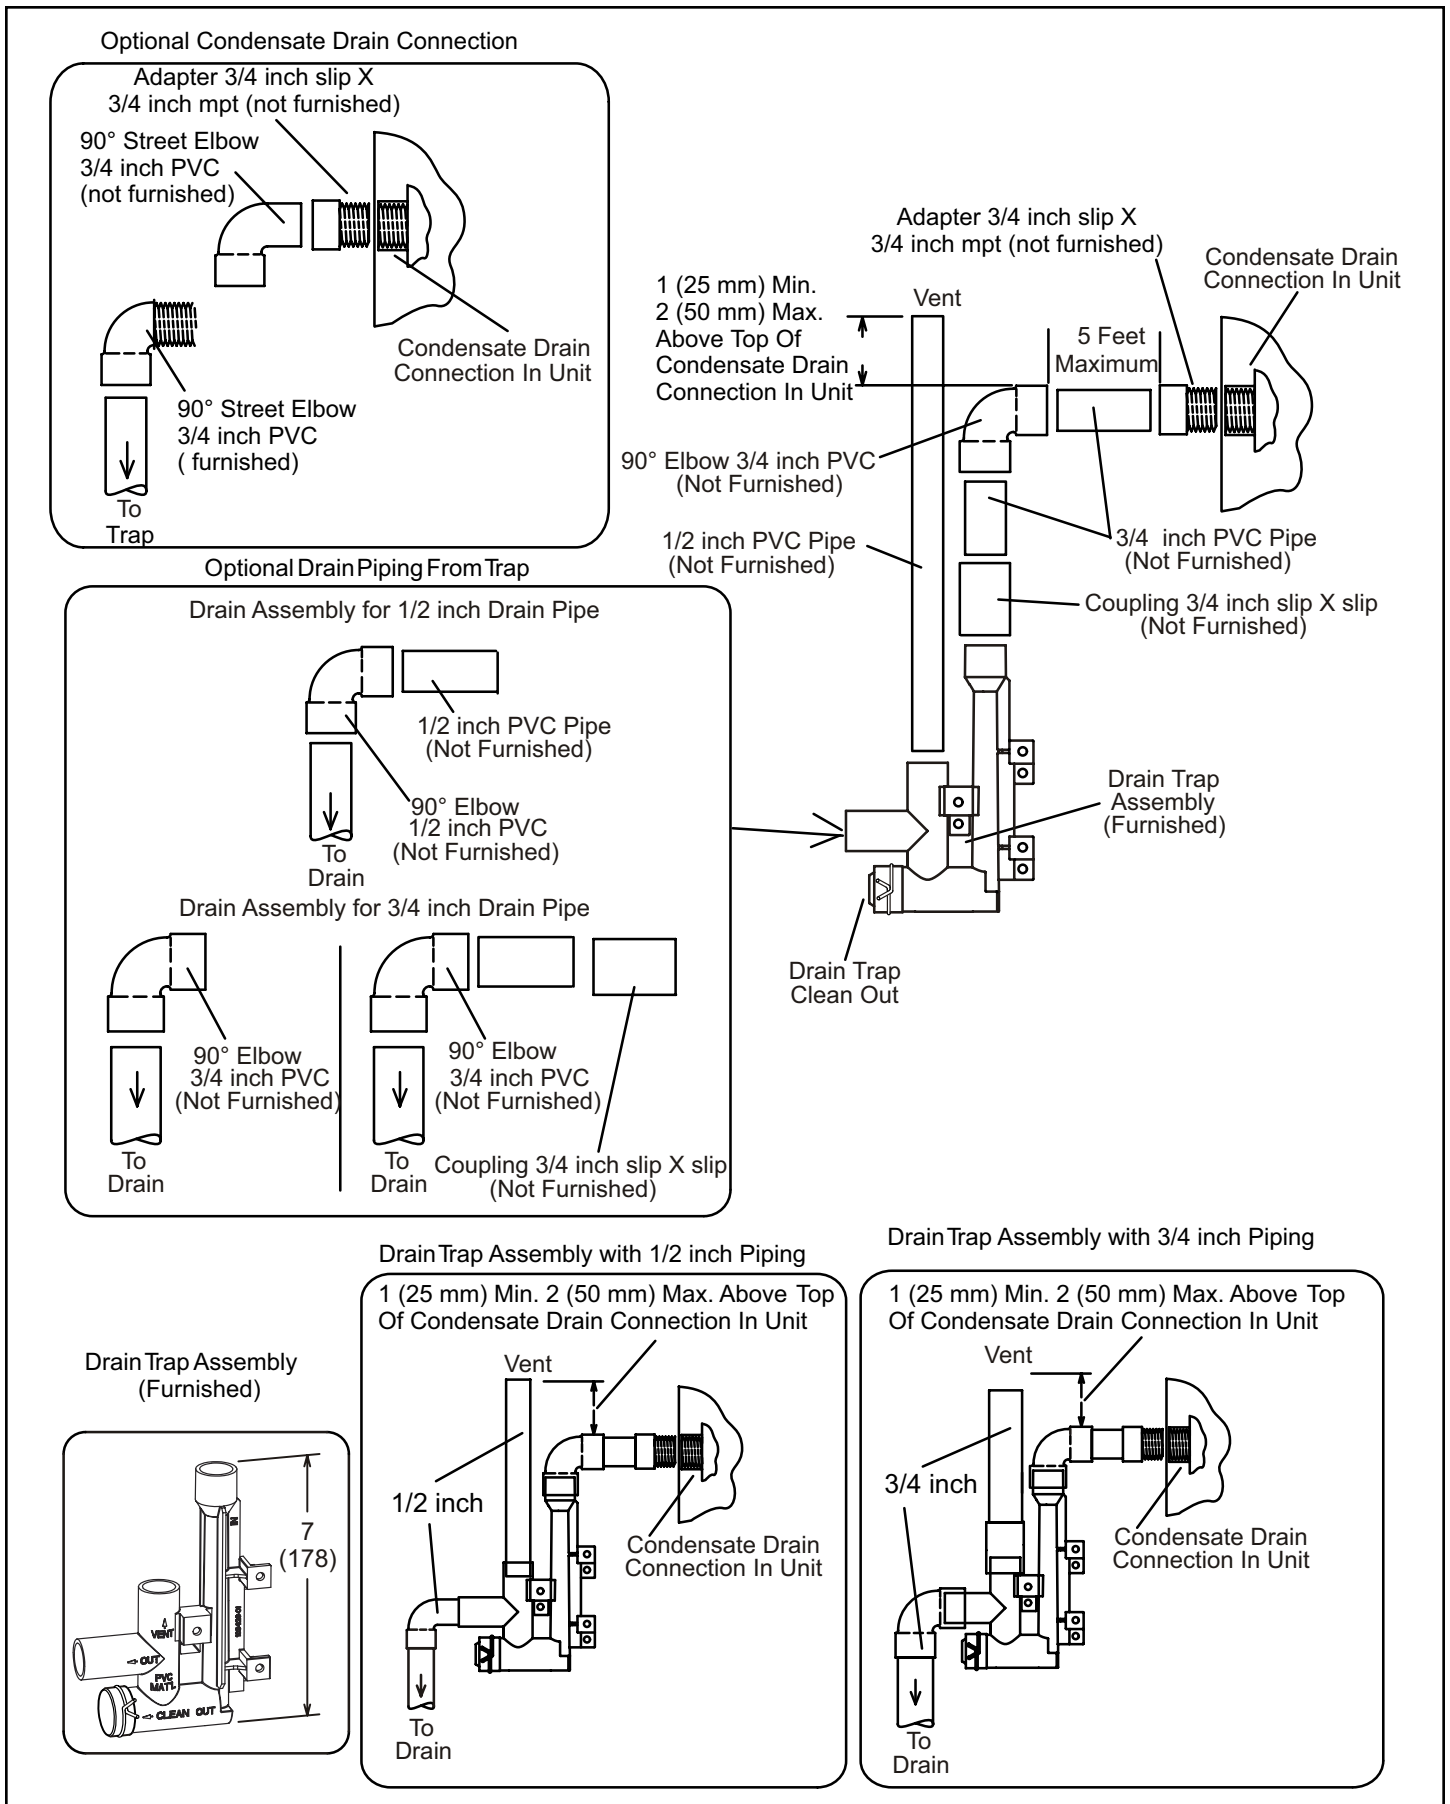
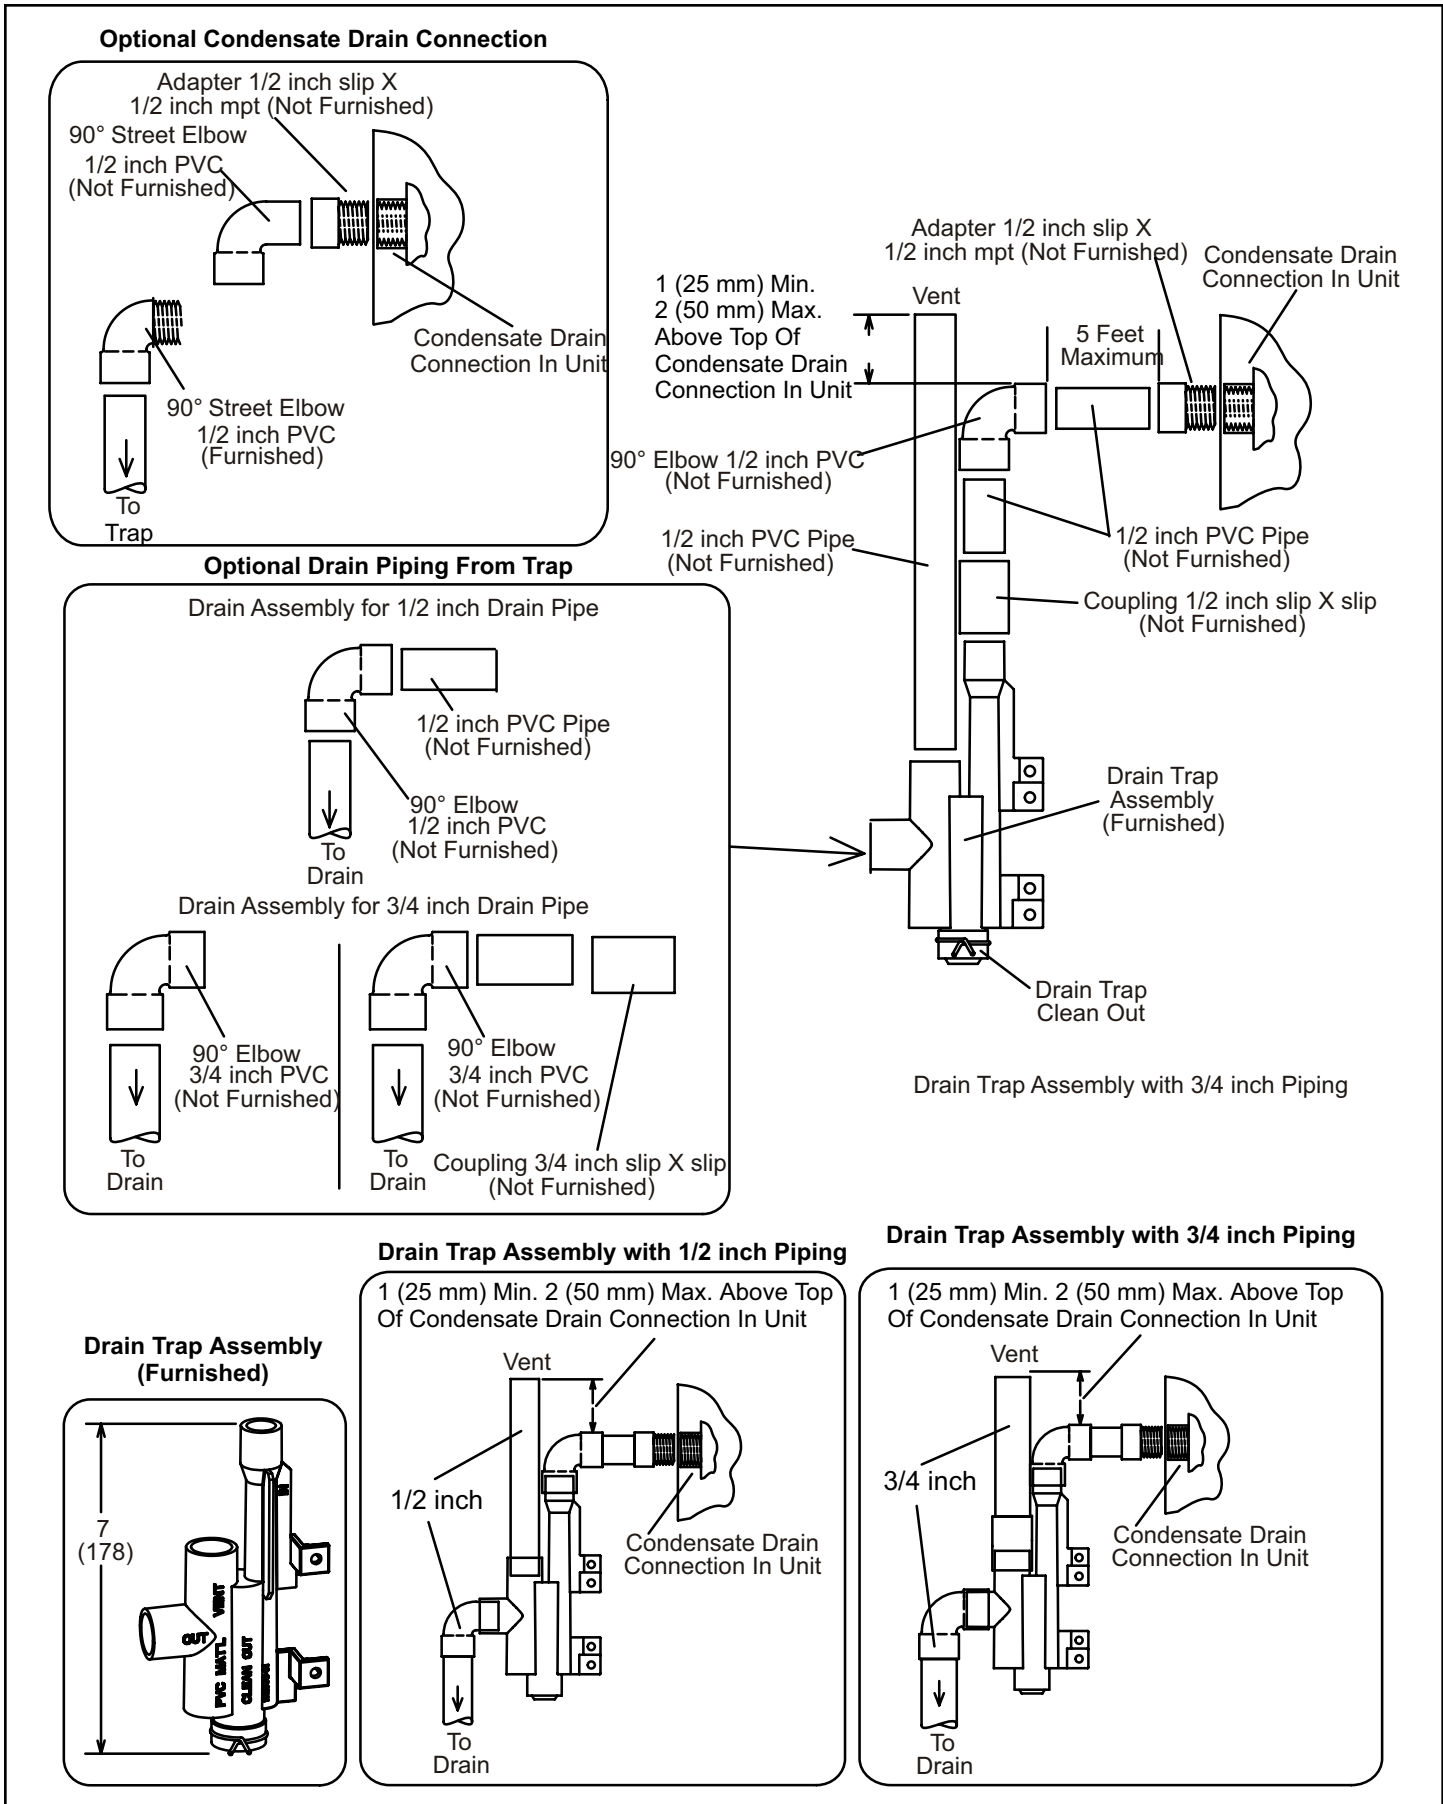

Figure 45. Trap / Drain Assembly Using 1/2" PVC or 3/4" PVC Cold End Header Box with 3/4" Drain Connection
Figure 46. Trap / Drain Assembly Using 1/2" PVC or 3/4" PVC Cold End Header Box with 1/2 Drain Connection
3. Install the cap over the clean out opening at the base of the trap. Secure with clamp. See Figure 45 and Figure 46.
4. Install drain trap using appropriate PVC fittings, glue all joints. Glue the provided drain trap as shown in Figure 45 and Figure 46. Route the condensate line to an open drain. Condensate line must maintain a 1/4" downward slope from the furnace to the drain.